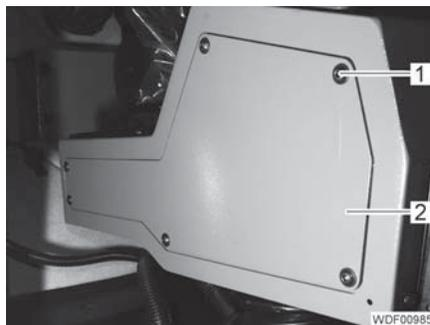

Fig. 356 Cover attachment
- Position the cover (Fig. 356,2).
- Screw in and tighten the 6 screws (Fig. 356,1).